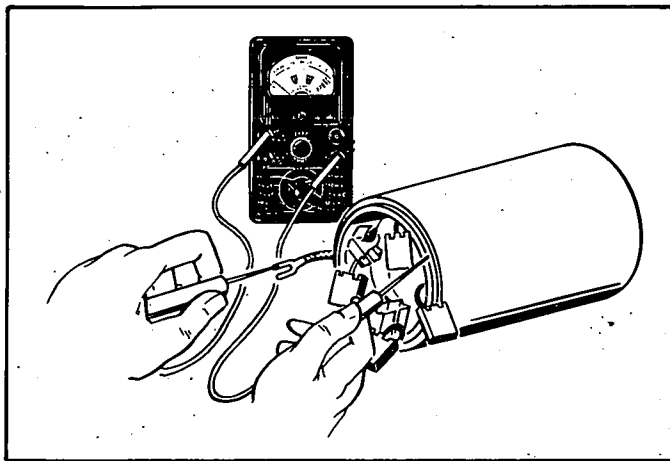

FIGURE 38. FIELD COIL GROUND TEST
6. **Testing Field Coils for Grounds.** Place one lead on the connector and the other on a clean spot on the frame after unsoldering shunt field coil wire. If the ohmmeter reading is low, the fields are grounded, either at the connector or in the windings (Figure 38).